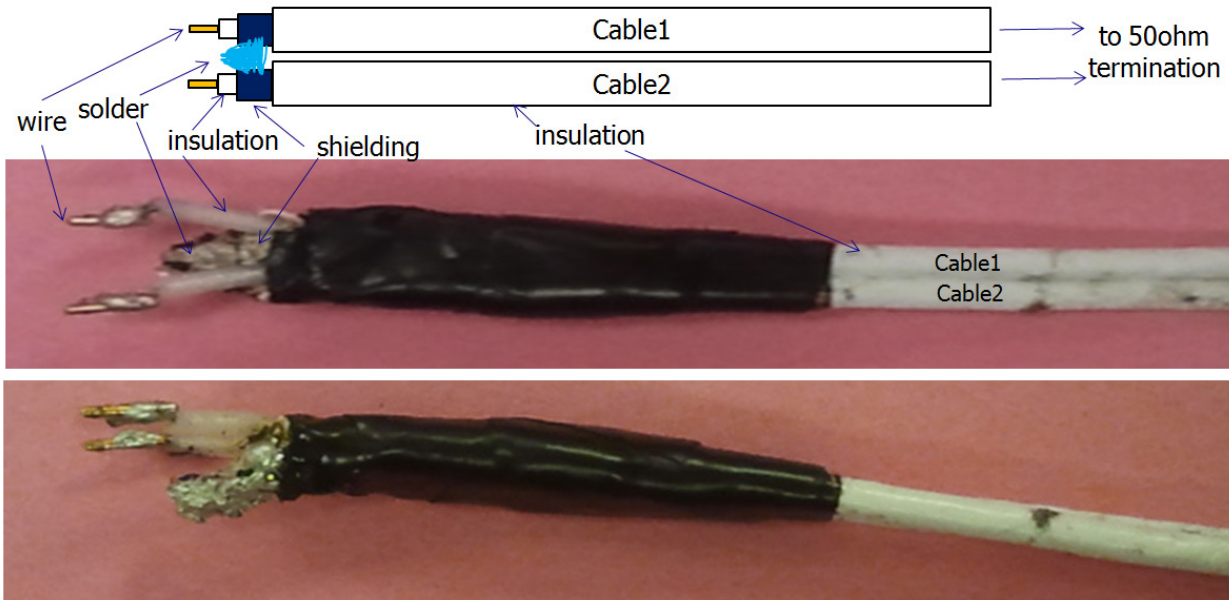

Figure 3. Construction of a Custom-Made Probe
- Figure 3. Construction of a Custom-Made Probe 3
Use the following steps and refer to Figure 3 for one method of constructing a custom-made probe.